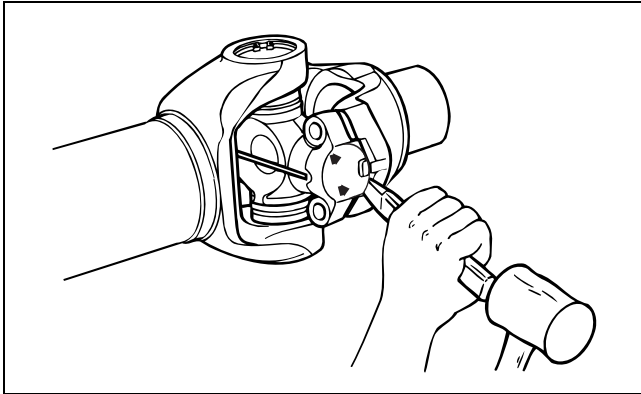

Figure 4.3
4. If necessary, use an appropriate tool to tap the wing bushing from the end yoke. Figure 4.3.